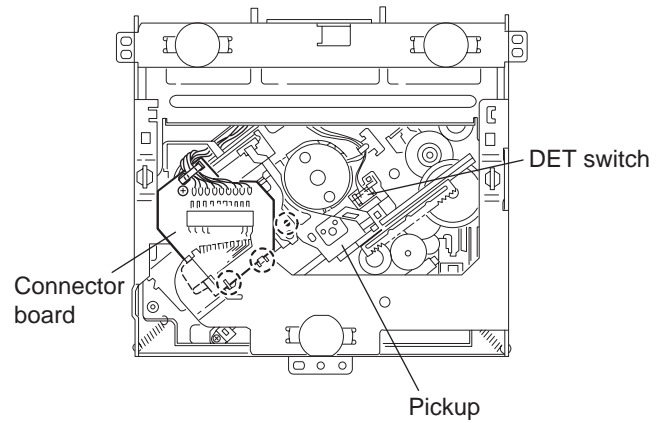

Fig.6
- From the bottom side of the main body, remove the two screws **H** attaching the main board. (See fig.6.)
- Disconnect the connector CN501 from the CD mechanism assembly and remove the main board. (See fig.6.)
3.2.3 Removing the DET switch (See Figs.6 and 7)